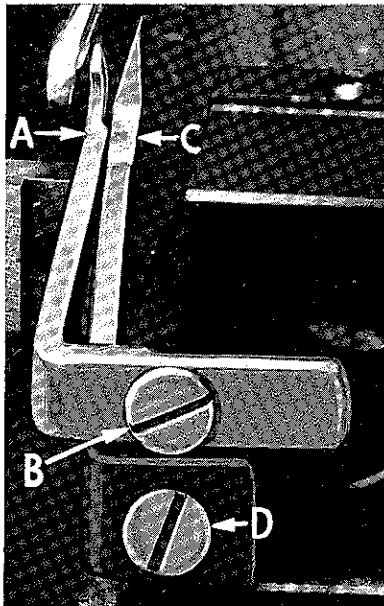

Fig. 5
Set rear needle guard (A, Fig. 5) as high as possible, without interfering with either lower looper or movement of lower knife holder, but still in position to deflect needle forward  $.002 - .004$  inch. Screw (B) is used to set rear needle guard. Make sure there is no interference between rear needle guard and lower looper.
Assemble front needle guard (C, Fig. 5). When lower looper is springing needle off back guard, set front needle guard as close as possible to needle without touching. Screw (D) is used to adjust and set front needle guard. After this setting make sure there is no interference between needle guards and differential feed dogs.